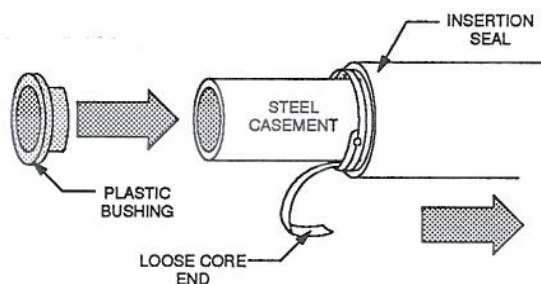

Figure 1
- 2 Slide PS assembly onto steel casement. (Figure 1)